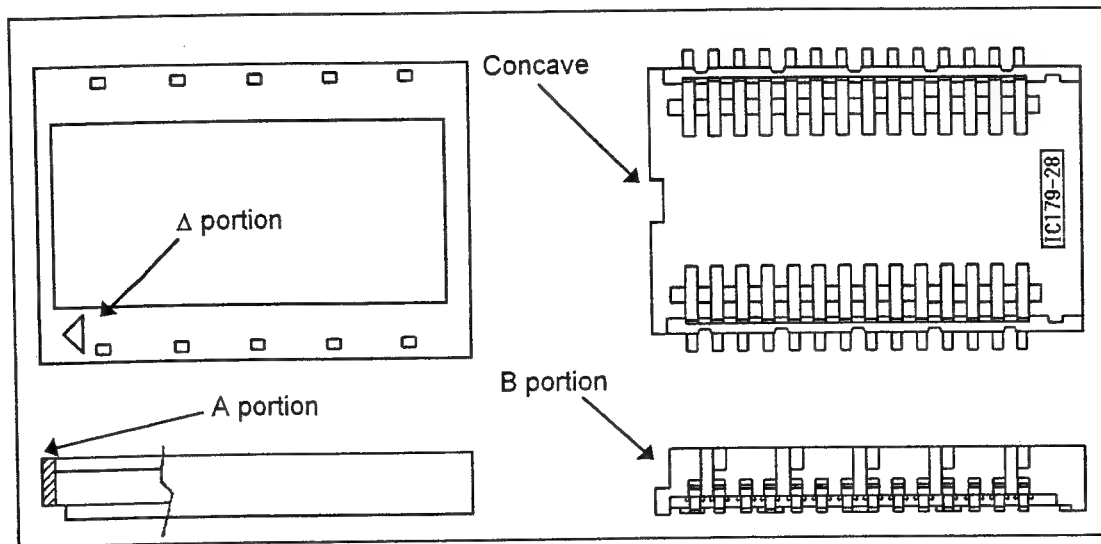

Fig. 1
1. After replacement of PROM, install the PROM Socket Cover on the PROM Socket fitting A portion of PROM Socket Cover with B portion of PROM as shown in figures 1 and 2.